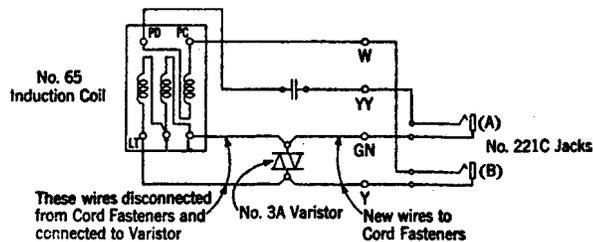

Fig. 5 - Connections for No. 1 Order Turret
3.11 Connect the leads to the varistor and GN and Y cord fasteners as indicated by Fig. 5.